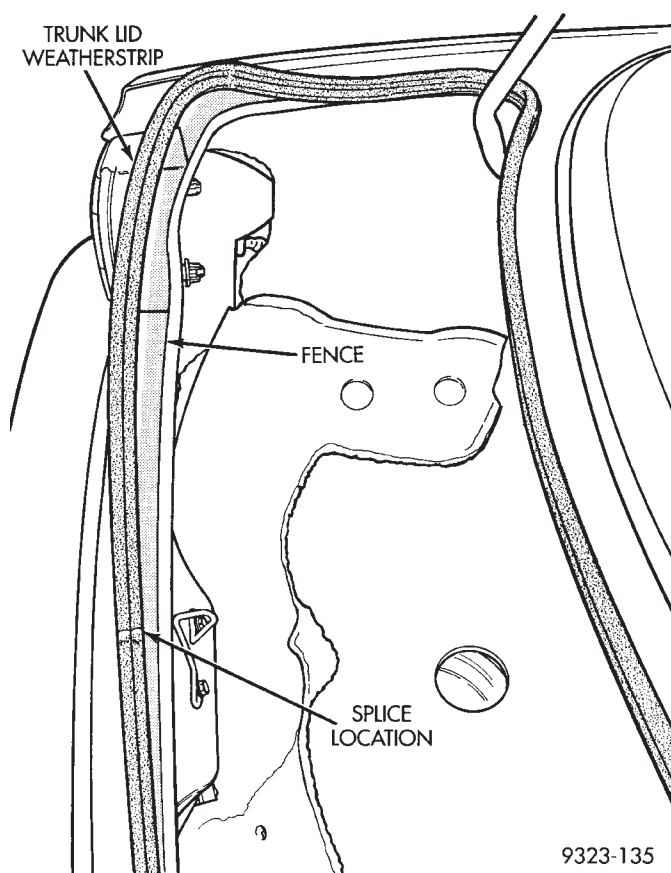

Fig. 76 Trunk Lid Weatherstrip
(1) Release trunk lid latch and open trunk lid.
(2) Pull trunk lid weatherstrip from trunk opening fence (Fig. 76).
(3) Separate weatherstrip from vehicle.